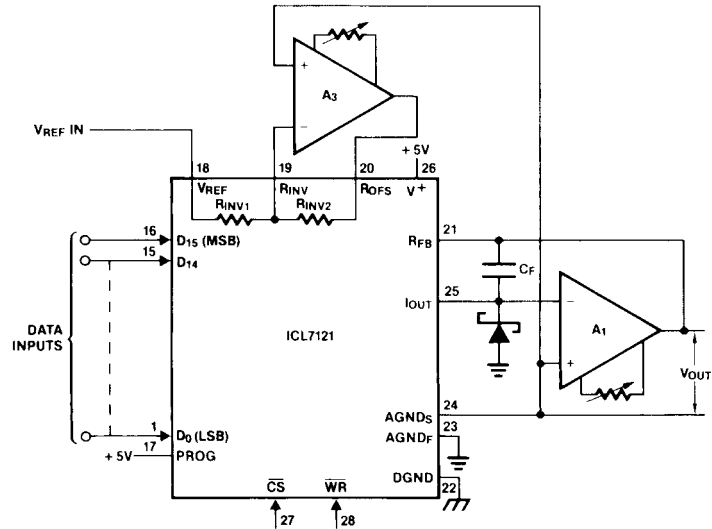

FIGURE 1. BIPOLAR OPERATION, FOUR-QUADRANT
6. Refer to Figure 1. Measured at output amplifier A1 (A1 having zero offset). $V_{REF} = +5V$. Adjustable to zero with external potentiometer.
The circuit diagram for the normal configuration of the ICL7121 is shown in Figure 1. The positive and negative reference voltages allow full four-quadrant multiplication. Amplifier A_3 , together with the internal resistors R_{INV1} and R_{INV2} , forms a simple voltage inverter circuit to generate $-V_{REF}$ for the R_{OFS} offset input pin. This will give the nominal “digital input code/analog output value” relationship of Table 1. Note that the value of R_{FB} is equal to $2R$ so full scale range is $2V_{REF}$.